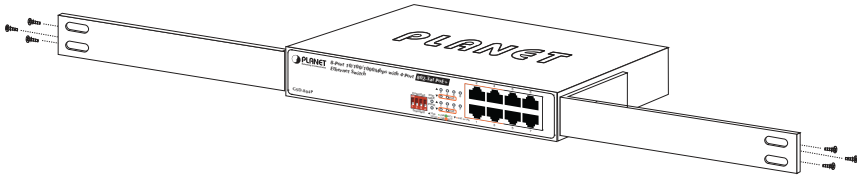

Figure 3-2: Attaching the Brackets to the GSD-804P.
Step 2: Attach a rack-mount bracket to each side of the GSD-804P with supplied screws attached to the package. Figure 3-2 shows how to attach brackets to one side of the GSD-804P.